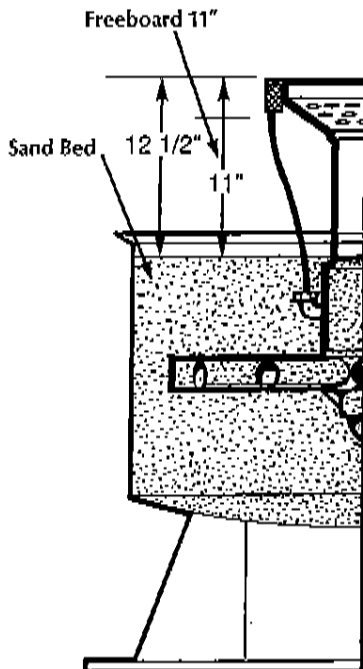

FIGURE 1B
4. Fill until top of sand bed is 12½" below top of internal assembly. When full, top of sand bed should be about 12½" below top of distributor (about 1½" below flange—see Figure 1B).